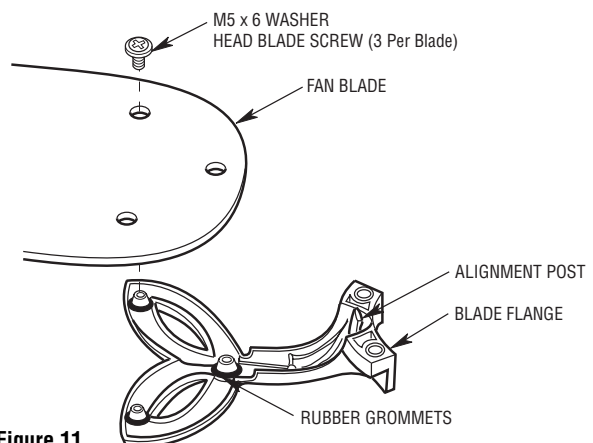
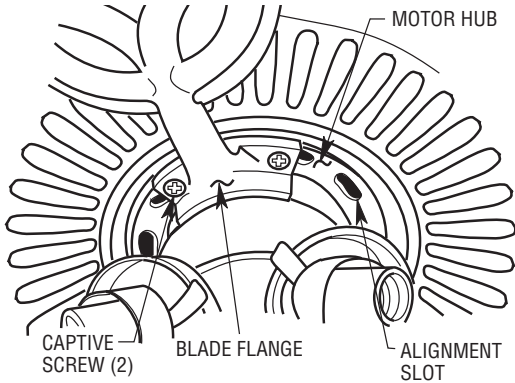

Figure 11
Figure 12
- 1. Make sure the three rubber grommets are firmly seated on each of the blade flanges. Then mount the blade flanges to the fan blades using three M5 x 6 washer head blade screws per blade (Figure 11).
- 2. Mount one blade assembly to the motor hub by mating the alignment post (Figure 11) of the flange with one of the alignment slots in the motor hub (Figure 12). Then tighten the two captive screws in the flange to secure the flange to the motor hub. Repeat this procedure for the other four blade assemblies. Make sure all screws are tightened.